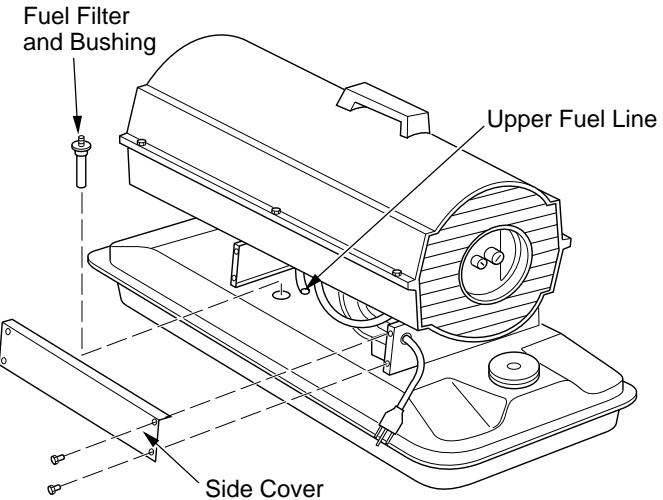

Figure 15 - Fuel Filter Removal, 40/55/60/70 Models
3. Pull upper fuel line off fuel filter neck (see Figure 15 or 16).
3. Remove 4 side cover screws with a 5/16" nut driver. Remove side cover (see Figures 15 or 16, page 9 or Figure 17, page 10).
12. Replace side cover (see Figures 15 or 16, page 9 or Figure 17, page 9).